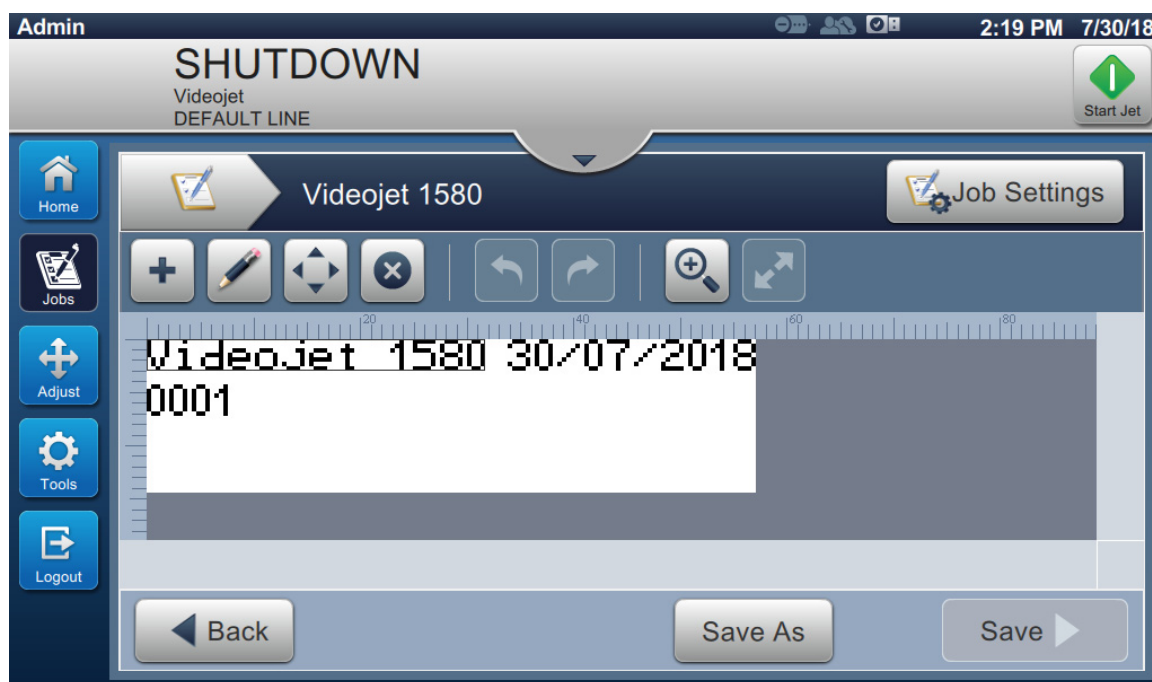

Figure 5-15: Sample Message
In the below section the user is guided to create a new job as shown in Figure 5-15 which consists of the following fields:
10. Select the field and either drag or use the  button to move the field to the location as shown in Figure 5-15 on page 5-34.
22. Select the field and either drag or use the  button to move the field to the location as shown in Figure 5-15 on page 5-34.
30. Select the field and either drag or use the  button to move the field to the location as shown in Figure 5-15 on page 5-34.